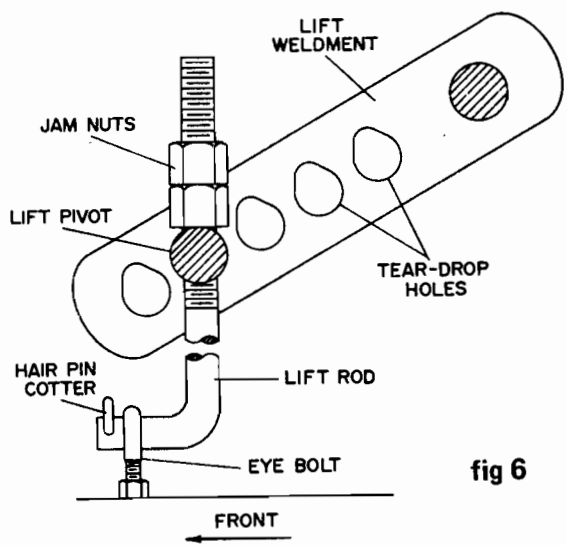

fig 6
3. Lower equipment lift all the way down. Turn lift rod upside down (bent portion up) and put lift pivot in second hole from the end of the lift weldment. Put it in from the left side, fig 6.